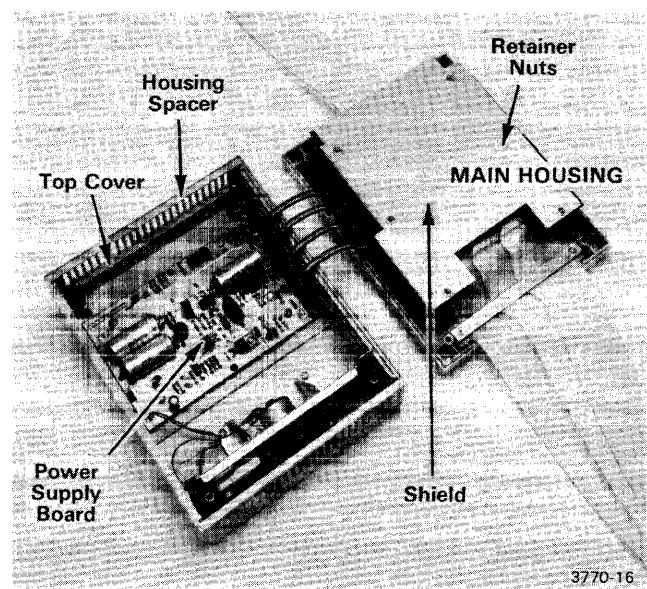

Fig. 6-1. Access to Power Supply board.
3. Remove the top cover of the interface Assembly and set it beside the main housing (see Fig. 6-1).